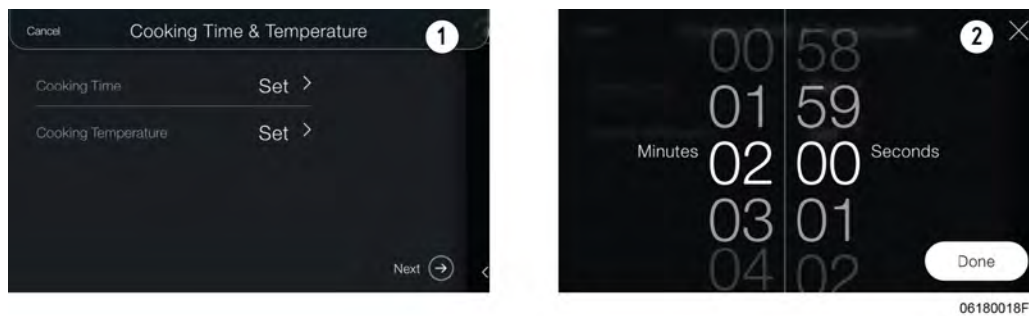

Figure 5-10
1. **Cooking Time** - Tap **Select**. Swipe up or down to select minutes and seconds, see Figure 5-10, page 47 (1) and (2). Tap **Done** to continue.